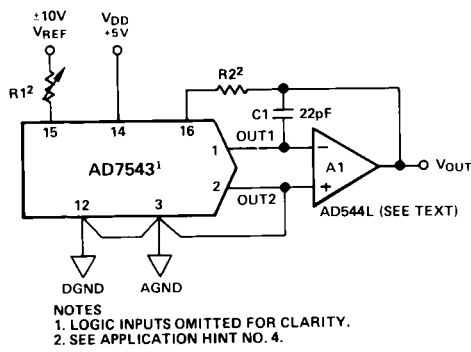
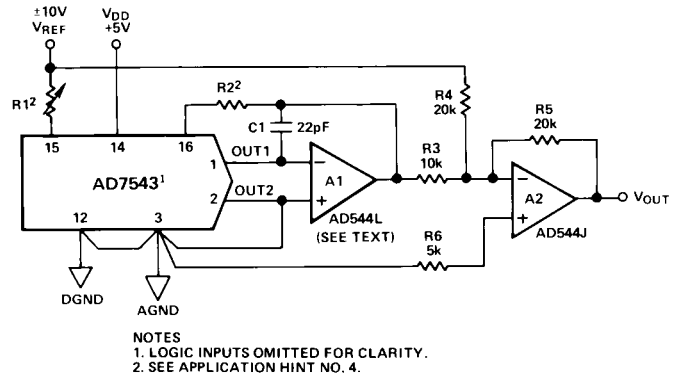

Figure 6. Unipolar Binary Operation (2-Quadrant Multiplication)
Figure 7. Bipolar Operation (4-Quadrant Multiplication)
Gain is defined as the ratio of the DAC's Full Scale output to its reference input voltage. An *ideal* AD7543 would exhibit a gain of  $-4095/4096$ . Gain error is adjustable using external trims as shown in Figures 6 and 7.
Register B can be asynchronously reset to 0000 0000 0000 by bringing CLR momentarily LOW. This allows the DAC output voltage to be set to a known condition, thus simplifying system initialization procedure. When operating the AD7543 in the unipolar circuit of Figure 6, a CLEAR causes the DAC output voltage to equal 0V. When using the bipolar circuit of Figure 7, a CLEAR causes the DAC output to equal -VREF.
Figure 6 shows the analog circuit connections required for unipolar binary (2-quadrant multiplication) operation. The logic inputs are omitted for clarity. With a dc reference voltage or current (positive or negative polarity) applied at pin 15, the circuit is a unipolar D/A converter. With an ac reference voltage or current (again of + or - polarity) the circuit provides 2-quadrant multiplication (digitally controlled attenuation). The input/output relationship is shown in Table III.
Table III. Unipolar Binary Code Table for Circuit of Figure 6
Figure 7 and Table IV illustrate the circuitry and code relationship for bipolar operation. With a dc reference (positive or negative polarity) the circuit provides offset binary operation. With an ac reference, the eleven LSBs provide digitally controlled attenuation of the ac reference while the MSB provides polarity control.
Table IV. Bipolar Code Table for Offset Binary Circuit of Figure 7
4. **GAIN TEMPERATURE COEFFICIENTS:** The gain temperature coefficient of the AD7543 has a maximum value of 5ppm/°C and a typical value of 2ppm/°C. This corresponds to gain shifts of 2.0LSBs and 0.82LSBs respectively over a 100°C temperature range. When trim resistors are used to adjust full-scale range as shown in Figures 6 and 7 the temperature coefficient of R1 and R2 should be taken into account. It may be shown that the additional gain temperature coefficients introduced by R1 and R2 may be approximately expressed as follows:—